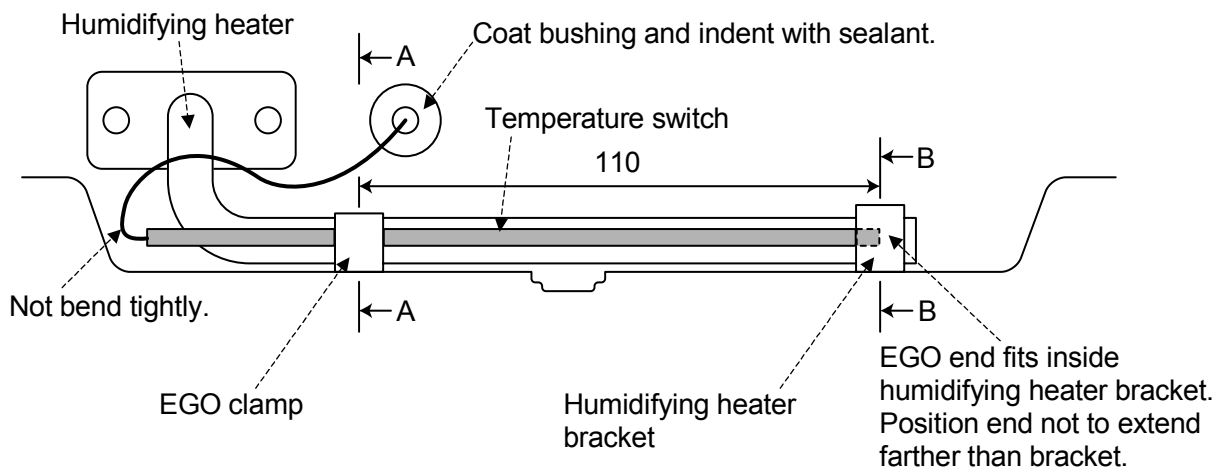

Fig. 5.27 Humidifying heater installation
9. Coat humidifying heater screws with sealant and lock down the humidifying heater. Lock down the temperature switch with the humidifying heater bracket and the EGO clamp. (See Fig. 5.27.)
10. Lock down the boil-dry protector sensor as shown in Fig. 5.27.